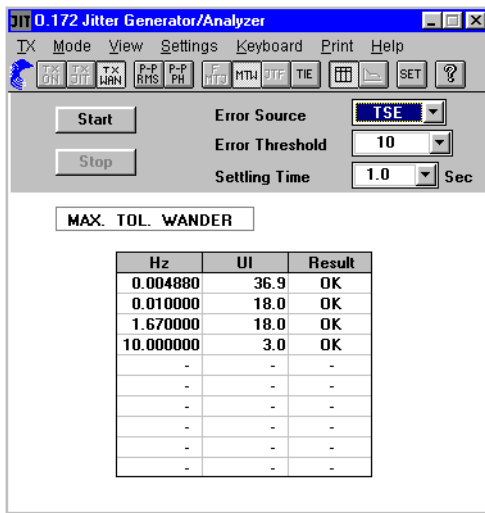

Fig. A-89 "O.172 Jitter Generator/Analyzer" window for MTW measurements
- The table (see Fig. A-89) contains combinations pre-selected by the user or the default values for wander frequencies and wander amplitudes. These are set one after the other in the order they are entered in the table when the measurement is started.